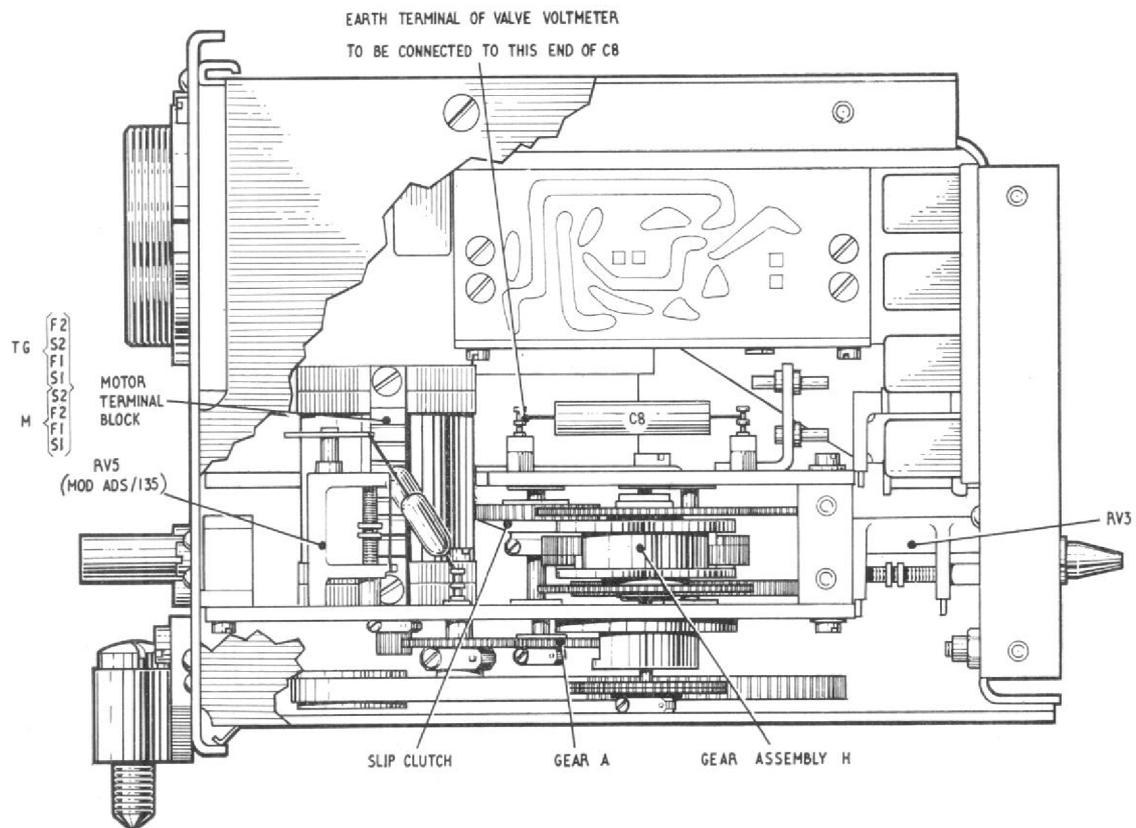
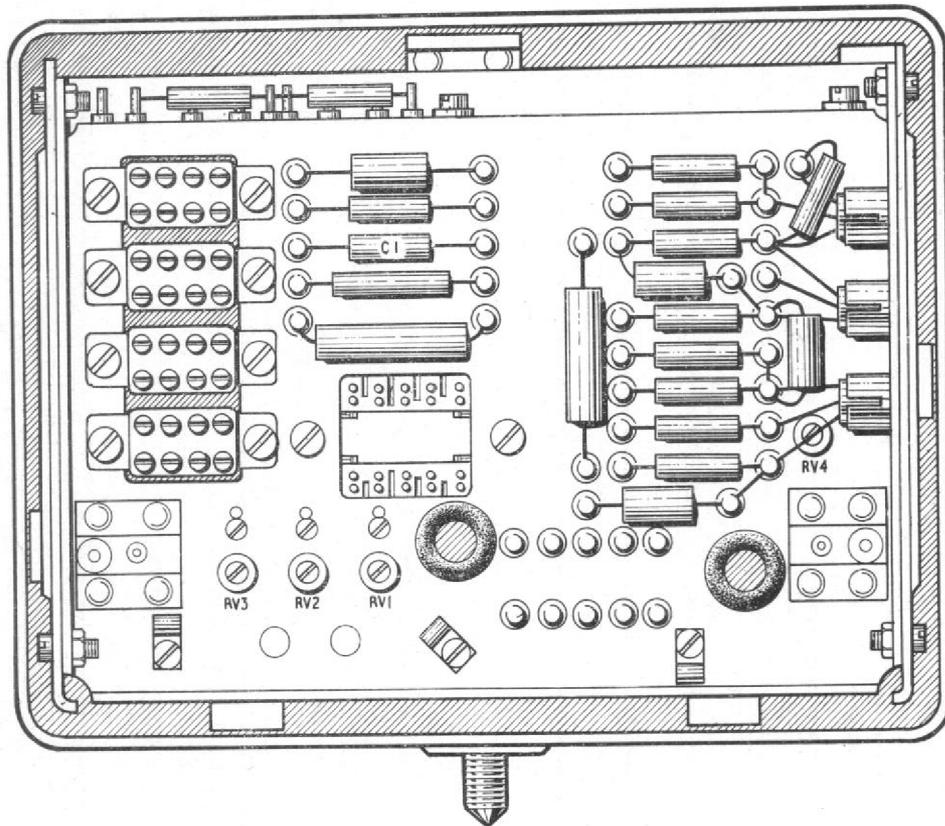

Fig. 2. Side view of transducer
Fig. 3. Rear view of transducer
(6) Set switch S2 to ON and ensure that the variac output is 50V. Set switch S3 to ON.
(7) Rotate gear A (fig. 2) through not more than one revolution in either direction against the servo action. A current of at least 4 mA on the multimeter should be produced. If the correct reading is obtained proceed to sub-para. (9). If not, check the capsule output, as measured across C1 (fig. 3), for one revolution of gear A. This must be at least 5mV r.m.s. If correct, check the supplies to the transistor amplifier in accordance with Table 1, and the 7.5V-0-7.5V supplies from T1.
(8) If all the power supplies are satisfactory, measure the resistances of the diodes MR1 to MR4, with the multimeter set to the ± 100 range. The resistances should be 15 to 25 ohms in one direction and 125 to 175 ohms in the other direction. If the supplies and the diode resistances are correct, a transistor amplifier fault exists.
(9) If the correct reading was obtained in the test described in sub-para. (7), connect the valve voltmeter, set to the 100V range,
across capacitor C8 (fig. 2). Ensure that the valve voltmeter earth terminal is connected as shown on fig. 2.
- (1) Remove cover (App. 4).
- (2) Turn the transducer onto its side and insert a gramme gauge into one of the holes in gear A (fig. 2).
- (3) Measure the force required to slip the clutch whilst holding gear assembly H (fig. 2) to prevent the gear from moving. The force required should be between 50 and 150 gm.
- (4) Insert the gramme gauge into one of the holes in gear A and measure the force required to move the gear train ensuring that the slip clutch does not slip. The force required should not exceed 8 gm.
- (5) If tests were correct carry out S.S.T. (App. 1). If incorrect reject transducer.
- (2) Connect the transducer to the test set as detailed in App. 1, with the static connection open to atmosphere.
- (3) Switch on the 115V 400 c/s 3-phase supply to the P.S.U. and set switch S2 to ON. Adjust the variac to give an output of 50V and set S3 to ON.
- (4) Set switch S1 to ON and check that relay RLW/1 operates removing the 50V 400 c/s supply to the motor as measured at S2 (violet lead) and F2 (dark blue lead) on the motor tagboard (fig. 2).
- (5) Set S1 to OFF and check that the 50V supply is now present at the motor. Set S3 to OFF and check that RLJA/1 operates removing the 50V supply to the motor.
- (2) Turn the transducer onto its side and connect to the test set as detailed in App. 1, with the static connection open to atmosphere.
- (3) Switch on the 115V, 400 c/s, 3-phase supply to the P.S.U. and set switch S2 to ON. Adjust the variac to give an output of 50V.
- (4) Set switches S3 and S1 to ON and allow 15 min. warm up period.
- (5) Position RV2 (fig. 3) and RV5 (fig. 2) to approximately their mid position.
- (6) Turn RV1 (fig. 3) fully counter-clockwise for maximum gain of buffer amplifier.
The maximum gain of the buffer amplifier is approximately 100. A check on the gain may be made by measuring the input to the amplifier across capacitor C1 (fig. 3) using the valve voltmeter.
- (7) Set the valve voltmeter to 1V range and tune for minimum capsule unit output by alternately adjusting RV4 (fig. 3) and turning the servo by hand on gear A (fig. 2). The final null should not be greater than 0.25V r.m.s.
- (8) Connect the multimeter, set to the 2.5V d.c. range, across the DC and E terminals of the test set. Observe the multimeter reading and adjust RV2 until the reading on the multimeter is a minimum. The null on the valve voltmeter should not be greater than 0.25V r.m.s.
- (9) Set S1 and S3 to OFF. Switch off the the power supplies.
- (10) Set the sylphon bellows to its mid-range position.
- (11) Set the aneroid barometer to the ambient pressure.
- (12) Interconnect the transducer, sylphon bellows and aneroid barometer as shown in App. 1.
- (13) Switch on the power supplies and set S3 to ON. Allow transducer three min. to warm up and set S1 to ON. The reading on the valve voltmeter should be the same as that obtained in sub-para. (8).
(15) Set S1 to OFF and adjust RV3 (fig. 3) so that when gear A is displaced approximately five turns in either direction against the servo action and released, the servo makes one overshoot and one undershoot only before becoming stationary.
(16) Set S3 to OFF and switch off power supplies to the P.S.U.
(17) Disconnect transducer from test equipment.